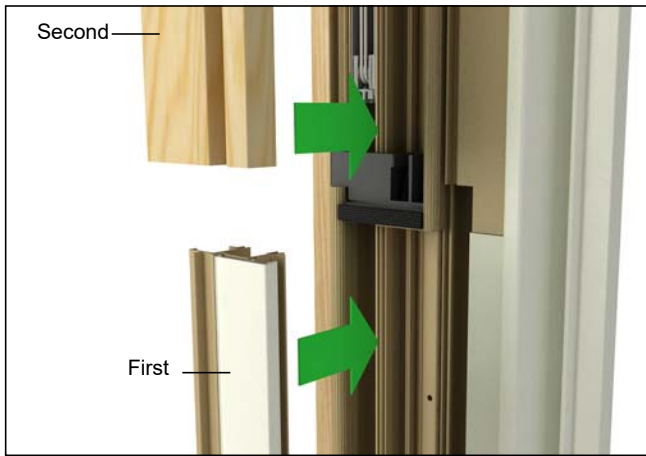

Figure 8
4. Replace the covers. See figure 8. Operation of unit may be affected if components are not seated properly.